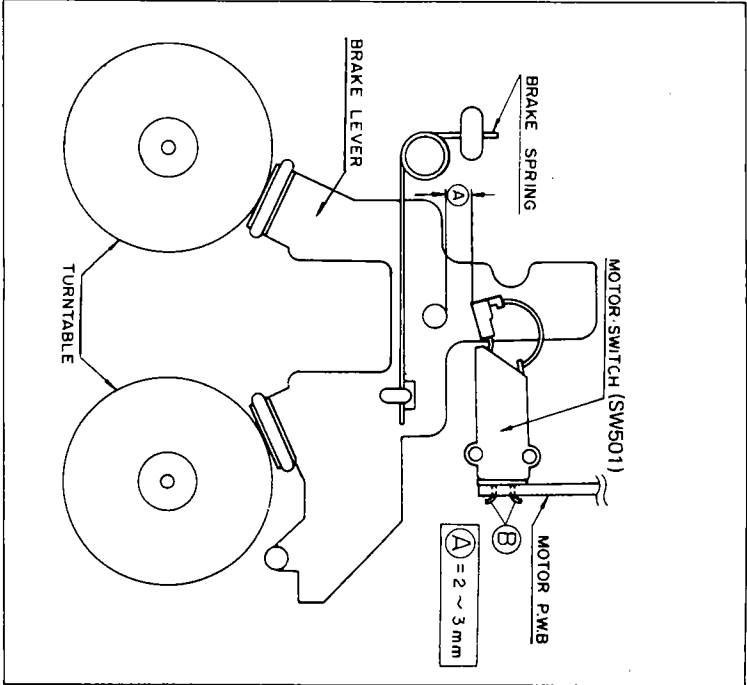

Figure 30
- (Refer to Figure 30)
2. When the motor is in a stop, check that the gap (A) between the brake lever and the motor switch (SW501) is 2mm to 3mm.
3. If the steps 1 and 2 above are still insufficient for the adjustment, the gap can be adjusted by positionally changing the two soldered terminals (B) of motor switch (SW501) located at the motor P.W.B.